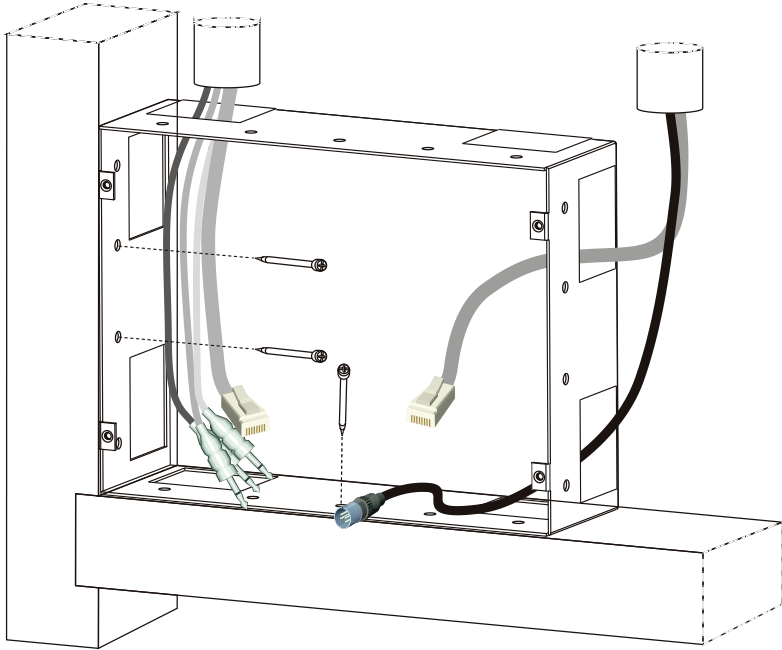

Figure 9. Installing the C-Touch Colour Wall Box
- 3) Feed the cables through to the wall box. Using conduit is recommended. Refer to Figure 9. The number and positioning of cables depends on the particular installation. Possible cables are listed in Table 1 (page 12).